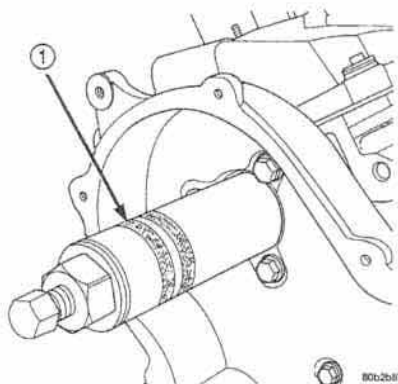

Fig. 16 CAMSHAFT OIL SEAL - REMOVAL
(1) Remove camshaft sprocket(s). (Refer to 9 - ENGINE/VALVE TIMING/TIMING BELT/CHAIN AND SPROCKETS - REMOVAL)
(2) Use Special Tool C-3981B to remove camshaft oil seal (Fig. 16).